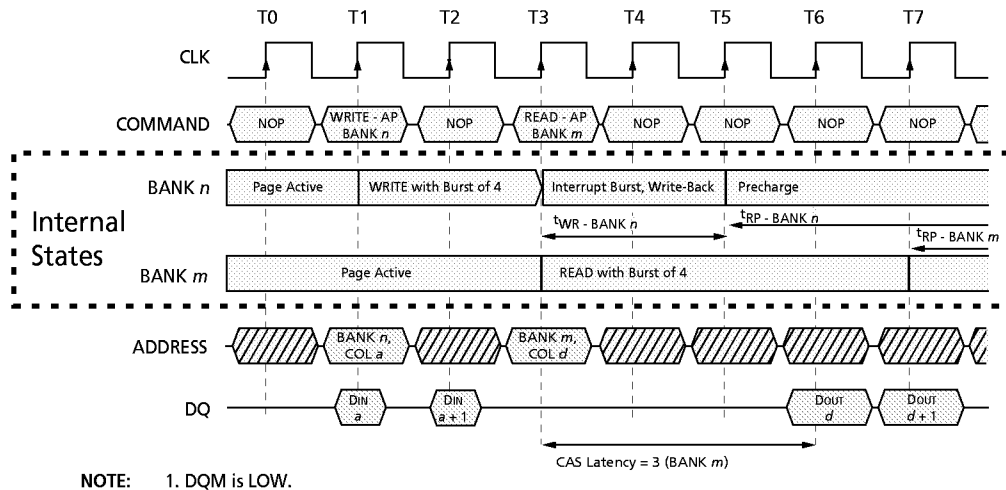

Figure 26
3. Interrupted by a READ (with or without auto precharge): A READ to bank *m* will interrupt a WRITE on bank *n* when registered, with the data-out appearing CAS latency later. The PRECHARGE to bank *n* will begin after t_{WR} is met, where t_{WR} begins when the READ to bank *m* is registered. The last valid WRITE to bank *n* will be data-in registered one clock prior to the READ to bank *m* (Figure 26).